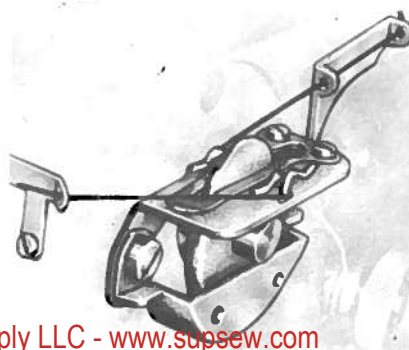

fig.20
h) Adjusting thread take-up cam (fig. 20)